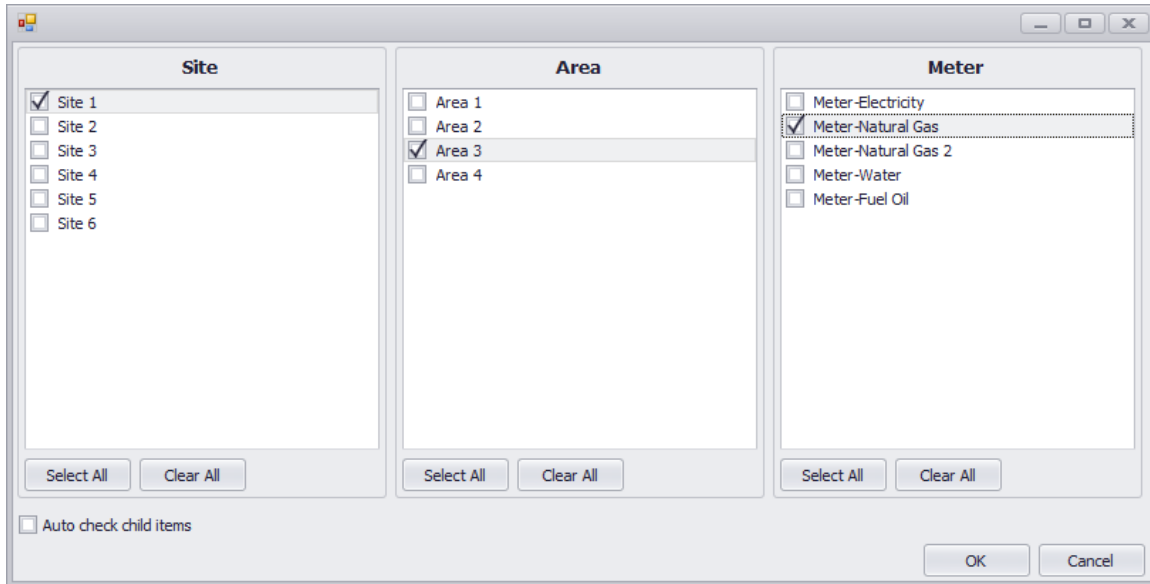

Figure 4.4: "Select" pop-up window for the Report Options.
- **Select item(s):** reports can be created for the whole project or for a specific Site, Area or Meter by selecting the appropriate option from this drop-down menu. If you select Site, Area, or Meter, the option box below will be activated and you will be able to select if you want to include in the report all the items in the selected category or to include only a partial selection. To make a selection of items, click on the “Selected” check box and a “Select” button will be activated. Click on the “Select” button and a check-box window with available items will pop up. You can select as many items as you want to be included in the report. Figure 4.4 shows this “Select” check-box window to generate a report at the Meter level of a natural gas meter located in Area 3 of Site 1.
- **Select item(s):** reports can be created for the whole project or for a specific Site, Area or Meter by selecting the appropriate option from this drop-down menu. If you select Site, Area, or Meter, the option box below will be activated and you will be able to select if you want to include in the report all the items in the selected category or to include only a partial selection. To make a selection of items, click on the "Selected" check box and a "Select" button will be activated. Click on the "Select" button and a check-box window with available items will pop up. You can select as many items as you want to be included in the report. Figure 4.4 shows this "Select" check-box window to generate a report at the Meter level of a natural gas meter located in Area 3 of Site 1.